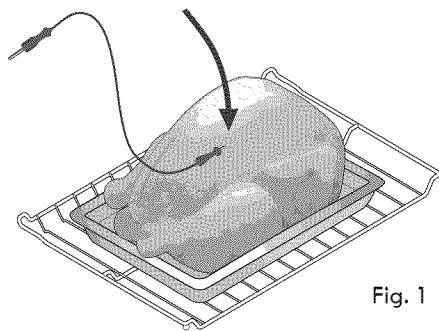

Fig. 1
- Always insert the probe so that the tip rests in the center of the thickest part of the meat. Do not allow the probe to touch bone, fat, gristle or the pan -Fig.1-.
1. Insert the probe into the food and place the food into the oven -Fig. 1-.